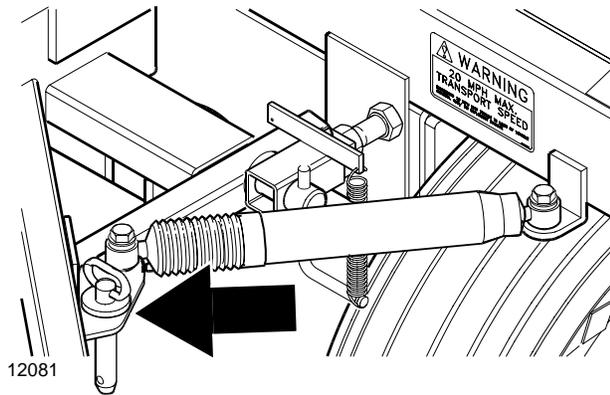

Figure 2-3
6. With center-pivot hitch properly secured to tractor drawbar, remove transport lock pins located in vertical tubes above tires and place in storage hole next to stabilizer cylinder on hitch as shown in Figure 2-3.